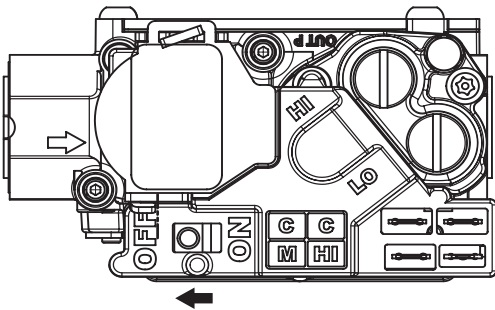

Fig. 11 - Control Switch to OFF
5. The gas valve will have a control switch to turn off and on. Turn the control switch on the gas control to the OFF position and wait 5 minutes. (See Fig. 11 or 12.) Then smell for gas, including near the floor. If you smell gas, **STOP!** Follow “B” on furnace label. If you don’t smell gas, go to next step.